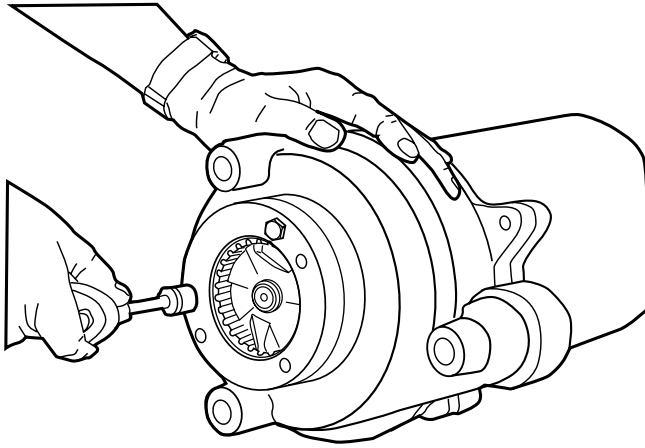

Fig. 1
DESCRIPTION OF PUMP — Figure 1 shows cutaway of pump with parts called out. This pump is intended to grind and pump all normal sewage for home use. It will also handle reasonable quantities of disposable diapers, sanitary napkins, paper towels, rubber material, glass, wood, plastic, string, cigarette butts and other material not normally found in sewage.
1. Remove three screws from grinder ring flange. Grinder ring is pressed into flange for easy removal. See Fig. 1